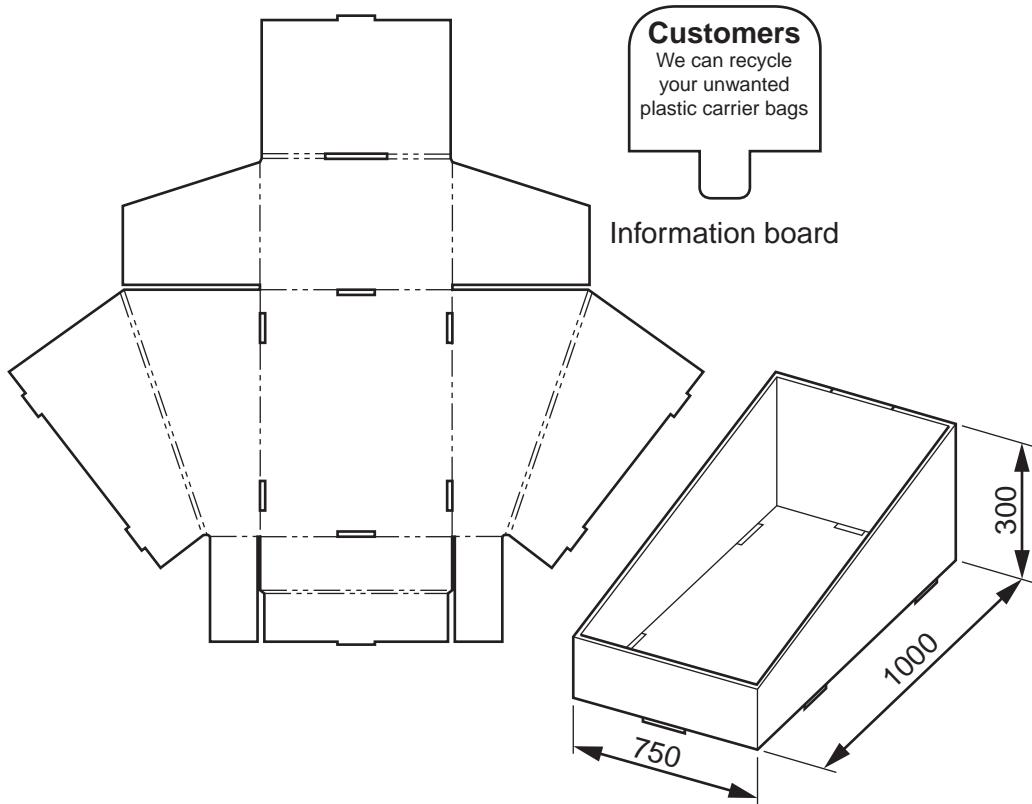

Fig. 5
- 4** Fig. 5 shows a design for a large container which is to be located in a shop, for collecting unwanted plastic carrier bags.